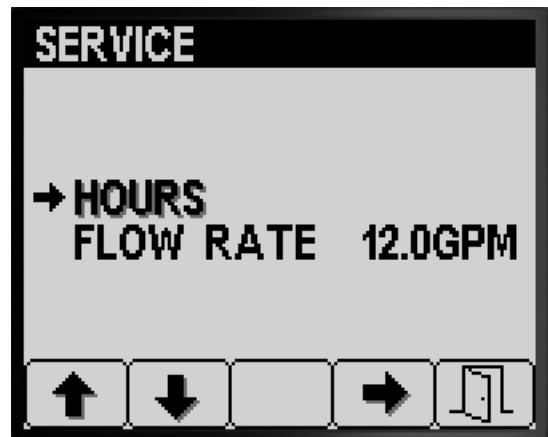

Figure 80
- Press button 1 or 2 on the Service screen until you reach the HOURS option (Figure 80).
- Press button 4 to select the Hours entry (Figure 80).